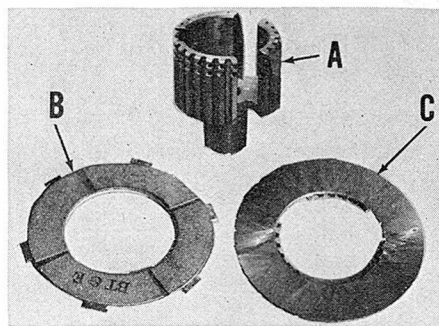

Fig. MA6—Snap rings on clutch center piece (A) are used to secure clutch plates (B&C). Fiber clutch disc (B) is used in 250, 360 and early 400cc models only.
**CLUTCH.** Clutch may be removed with engine in frame but Maico recommends laying motorcycle on its right side to aid in installing clutch springs. A three prong gear puller is recommended to prevent possible fracture of clutch hub. Use puller to compress clutch springs and then remove the two snap rings that secure the clutch plates to clutch center piece (A—Fig. MA6). Note stacking order of clutch plates when disassembling.